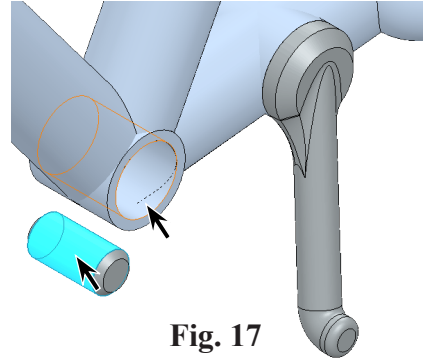

Fig. 17
Step 4. Click **cylindrical face Connector Rod** and a **cylindrical face of Pedal hole in Frame**, **Fig. 17**.